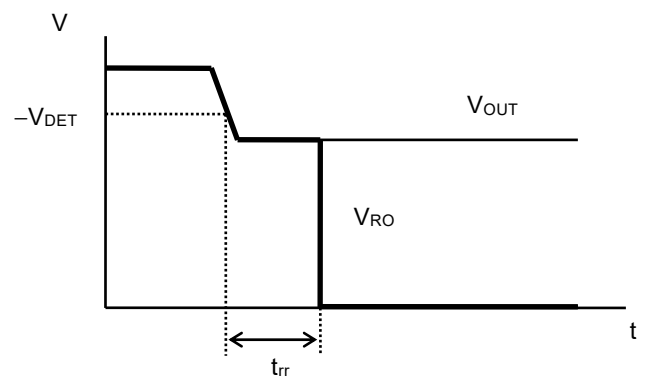

Figure 6 Reset Reaction Time
*4. The time from when V_{OUT} falls below $-V_{DET}$ to when the RO pin output inverts (Refer to **Figure 6**). The time period from when V_{OUT} changes to $V_{OUT(S)} \rightarrow -V_{DET}$ to when V_{RO} reaches $V_{OUT} / 2$.